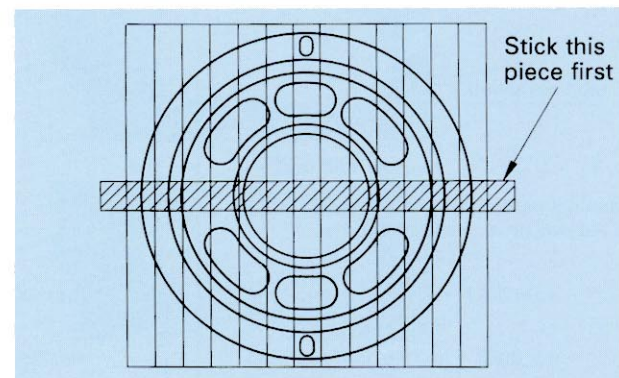

Fig. 5
- (1) Remove the valve plate and place it on a fixed surface.
- (2) Stick mending tape to the valve plate contact surface.
- b) Put the second and following pieces of mending tape at right angles to the first piece and parallel to each other with no gap between the along the edges. See Fig. 5.
- (3) Peel off the mending tape and stick it on recording paper. (Compare with the service limit sample, and judge if the part can be reused.)